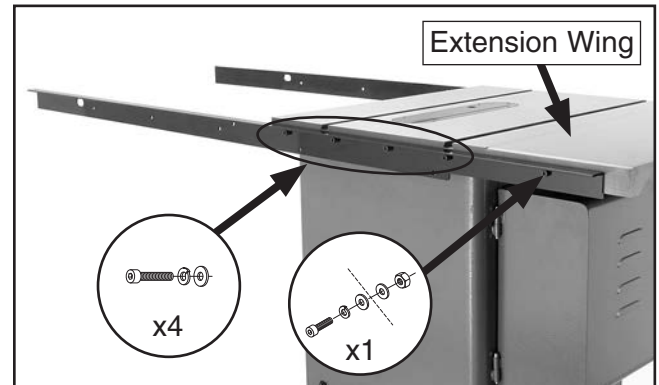

Figure 23. Rear rail installed (Model G0605X1 shown).
3. Fasten the rear rail to the table with (4) M8-1.25 x 25 cap screws, 8mm lock washers, and 8mm flat washers, as shown in **Figure 23**.
4. Fasten the right end of the rail to the pre-installed extension wing shown in **Figure 23** with (1) M8-1.25 x 25 cap screw, (2) 8mm lock washers, (1) 8mm flat washer, and (1) M8-1.25 hex nut.